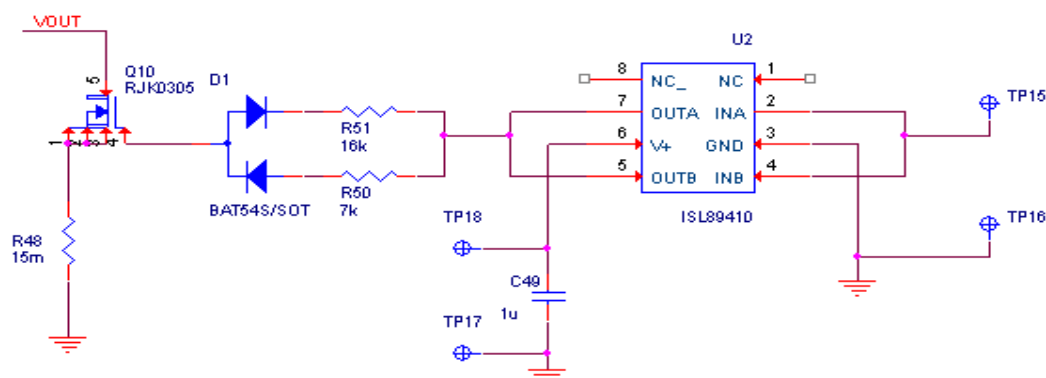

FIGURE 4. LOAD TRANSIENT CIRCUIT
1. Install the load transient circuit as indicated in the schematic. Refer to Figure 4 for detail.